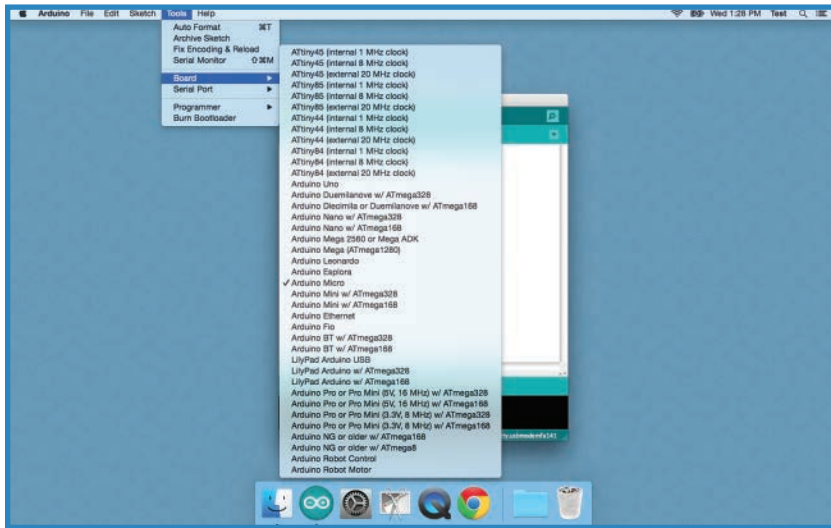

FIGURE 5.7 Select your Arduino from the list.
3. Go into Tools, Boards and select your Arduino from the list, as shown in Figure 5.7.